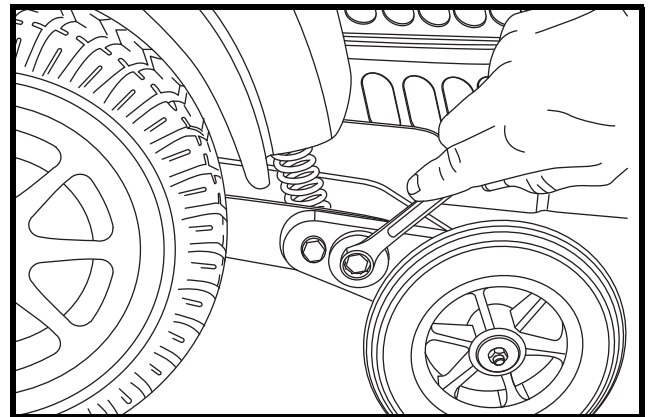

Figure 21. Anti-Tip Adjustment (Cam)
4. To adjust the anti-tip upward, turn the cam counterclockwise. To adjust the anti-tip downward, turn the cam clockwise. See figure 21.